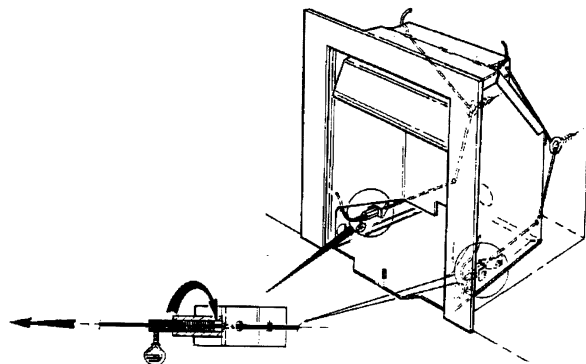

Figure 4 Cable routing and tightening of cable retainers
- Thread the cables through the eyebolts in the rear wall. Return the cables through the holes near the bottom of the convection box back panel and through the "V" shaped brackets near the bottom front sides of the convection box. See figure 4.
clamp the cables in position. Apply tension to the cables by hand. See figure 4.